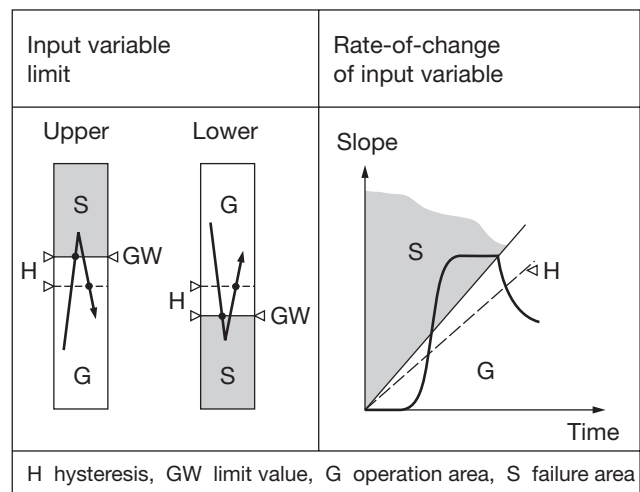

Fig. 3
- for monitoring the input variable in relation to a lower or upper limit between -10 and + 110%2 (see left side of Fig. 3)
between ± 1 and ± 50%/s (see right side of Fig. 3)